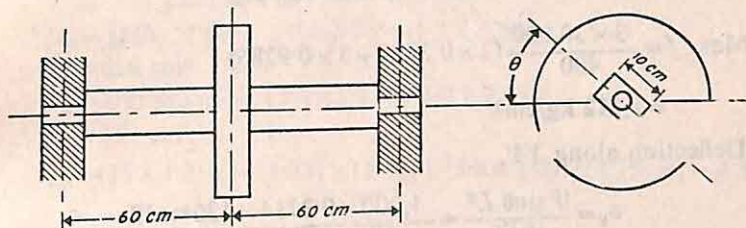

Fig. 56
5. A steel bar of rectangular section  $10 \text{ cm} \times 4 \text{ cm}$  is supported in bearings and carries a load of  $1,000 \text{ kg}$  at mid-span. If as indicated in Fig. 56 the beam is rotated slowly, find the inclination  $\theta$  when the bending stress in the bar reaches its greatest value. Determine the value of the greatest bending stress and the vertical deflection at mid-span when this stress occurs. Assume the bar is direction-free at the supports.  $E = 2 \times 10^6 \text{ kg/cm}^2$ . (Lond. Univ.)